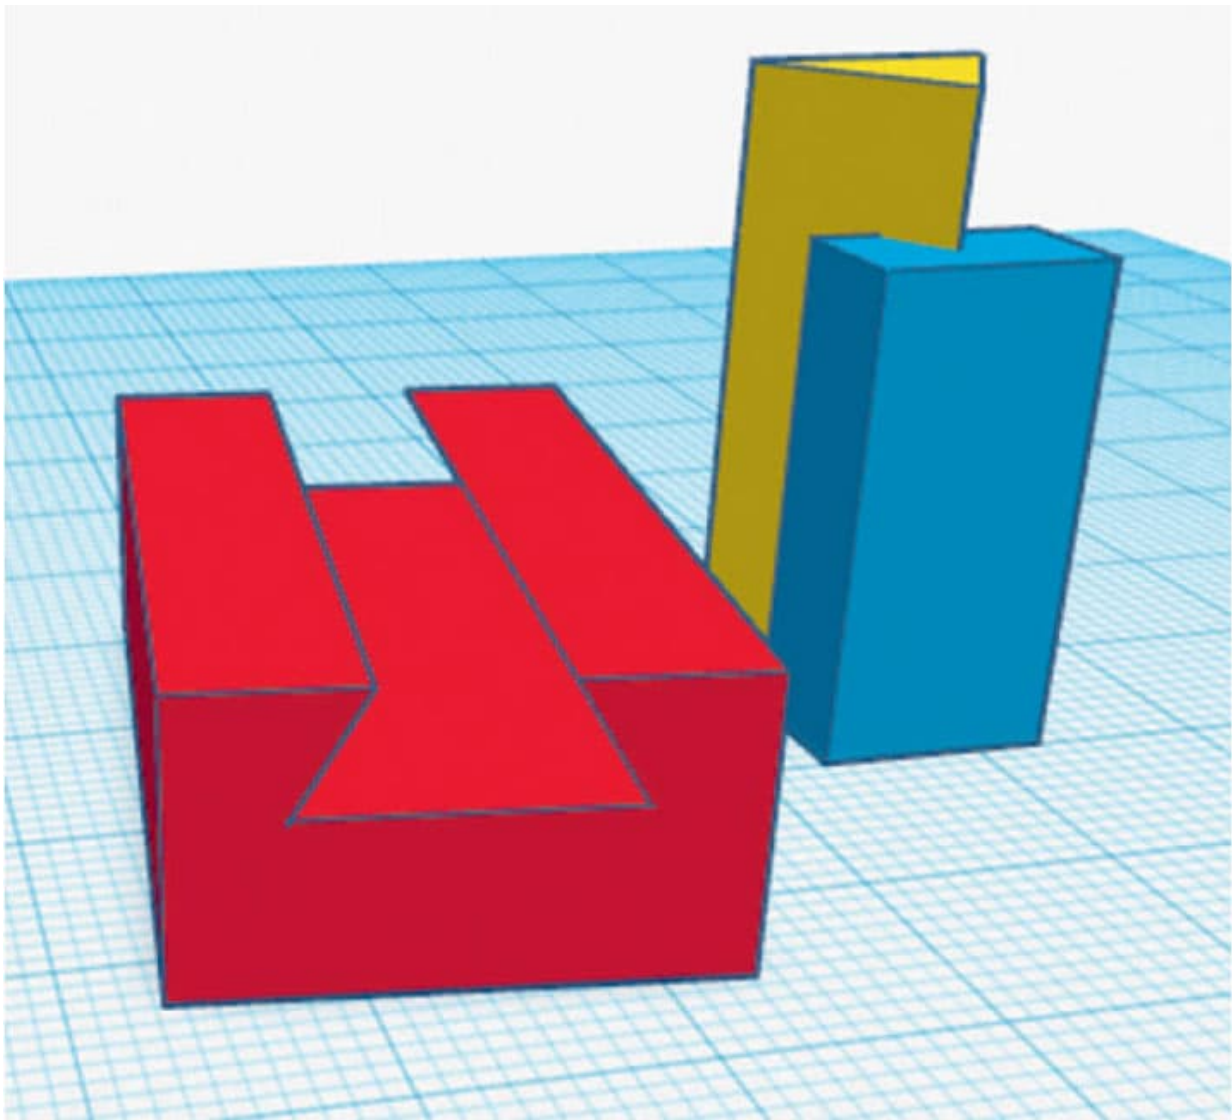

FIG. 5: *The completed design positioned for 3D printing.*
8. After testing the fit and adjusting the dimensions if needed, move the tail section away from the socket section, so they are separated for printing. If you used a box in step 4, you will need to rotate the tail section 90 degrees so it is standing up on its end (fig. 5). This will ensure there are no overhangs during the printing process.